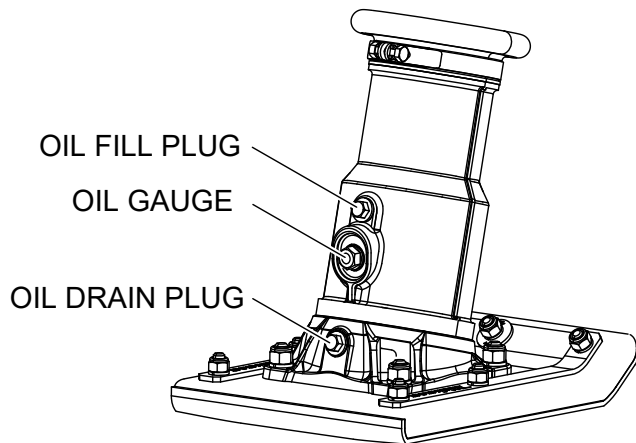

Figure 12. Oil Drain Plug
- Remove the oil drain plug on foot housing (Figure 12) and drain the oil. Refill with approximately 0.69 qt. (0.65 liter) of 10W-30 SE, SF or higher grade motor oil. Break in oil should be changed after first 50 hours.